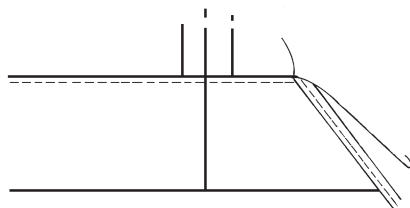

Fig. 13-6
- **Turned and stitched.** Fold the edge under $\frac{1}{4}$ inch (6 mm) and press. Edgestitch along the fold. (Fig. 13-6)